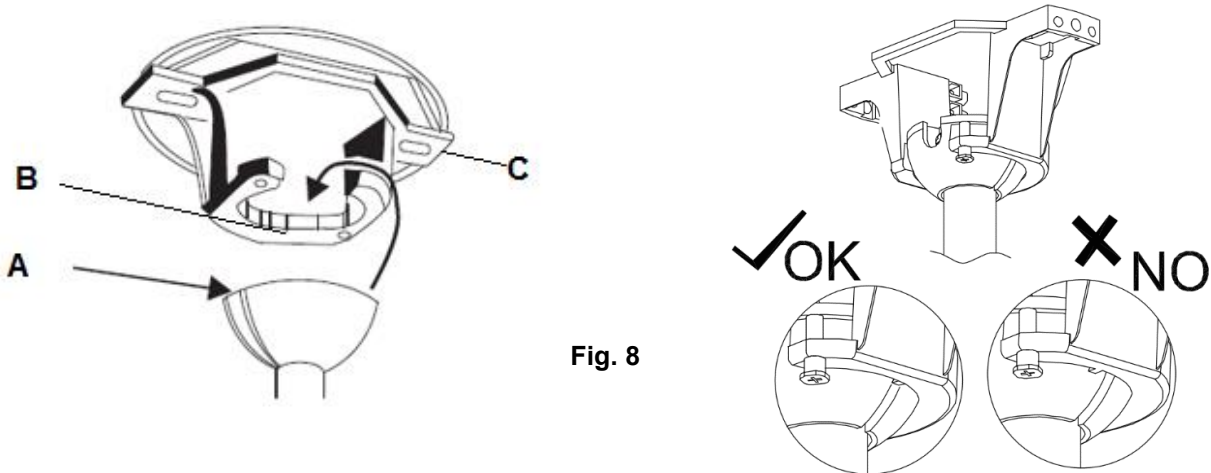

Fig. 8
Lift the fan assembly onto the mounting bracket. Ensure the key slot (A) of the hanger ball is positioned on the key pin (B) of the mounting bracket (C) to prevent the fan from rotating when in operation. (Fig.8)
Hang the fan (Refer to "hanging the fan" Fig. 8).